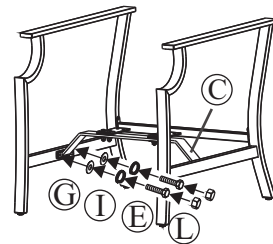

Fig. 2
Step 3: Attach the support bar to the chair legs by using the 1/4"x20mm bolts and washers as shown in Fig.2. Guide the bolts through the holes in the support bar, into the pre-drilled holes in the chair legs. **Hand tighten only 2-3 turns.**